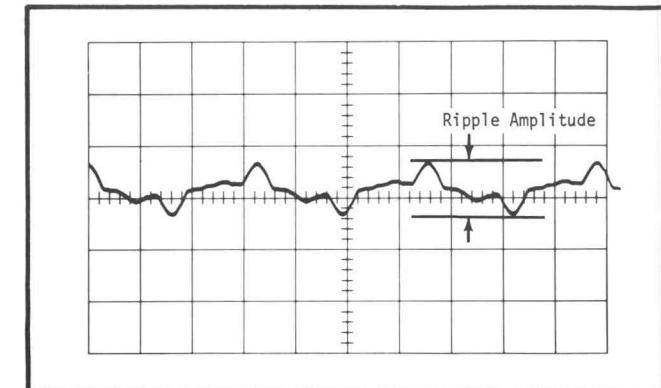

Fig. 4-4. Typical Ripple waveform.
c. Adjust the test oscilloscope for a convenient display. A typical waveform is illustrated in Fig. 4-4.